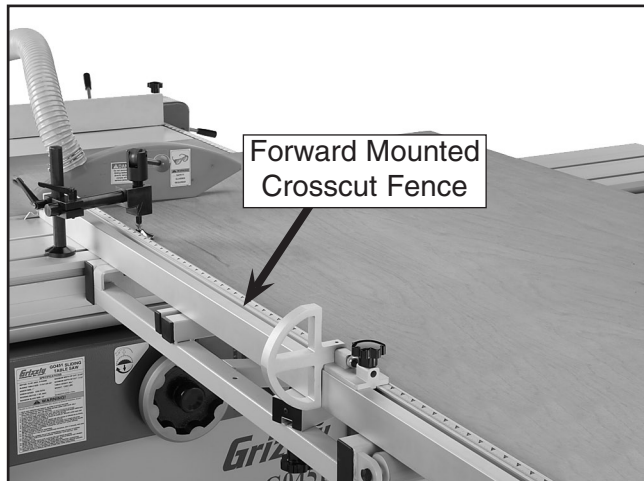

Figure 68. Crosscutting full size panel.
The Model G0451 can crosscut full size panels with the fence in the forward or rear position, although it is easier to load full size panels with the crosscut fence mounted in the forward position (see **Figure 68**).
4. Load the workpiece onto the table saw. The set up should look similar to **Figure 68**.